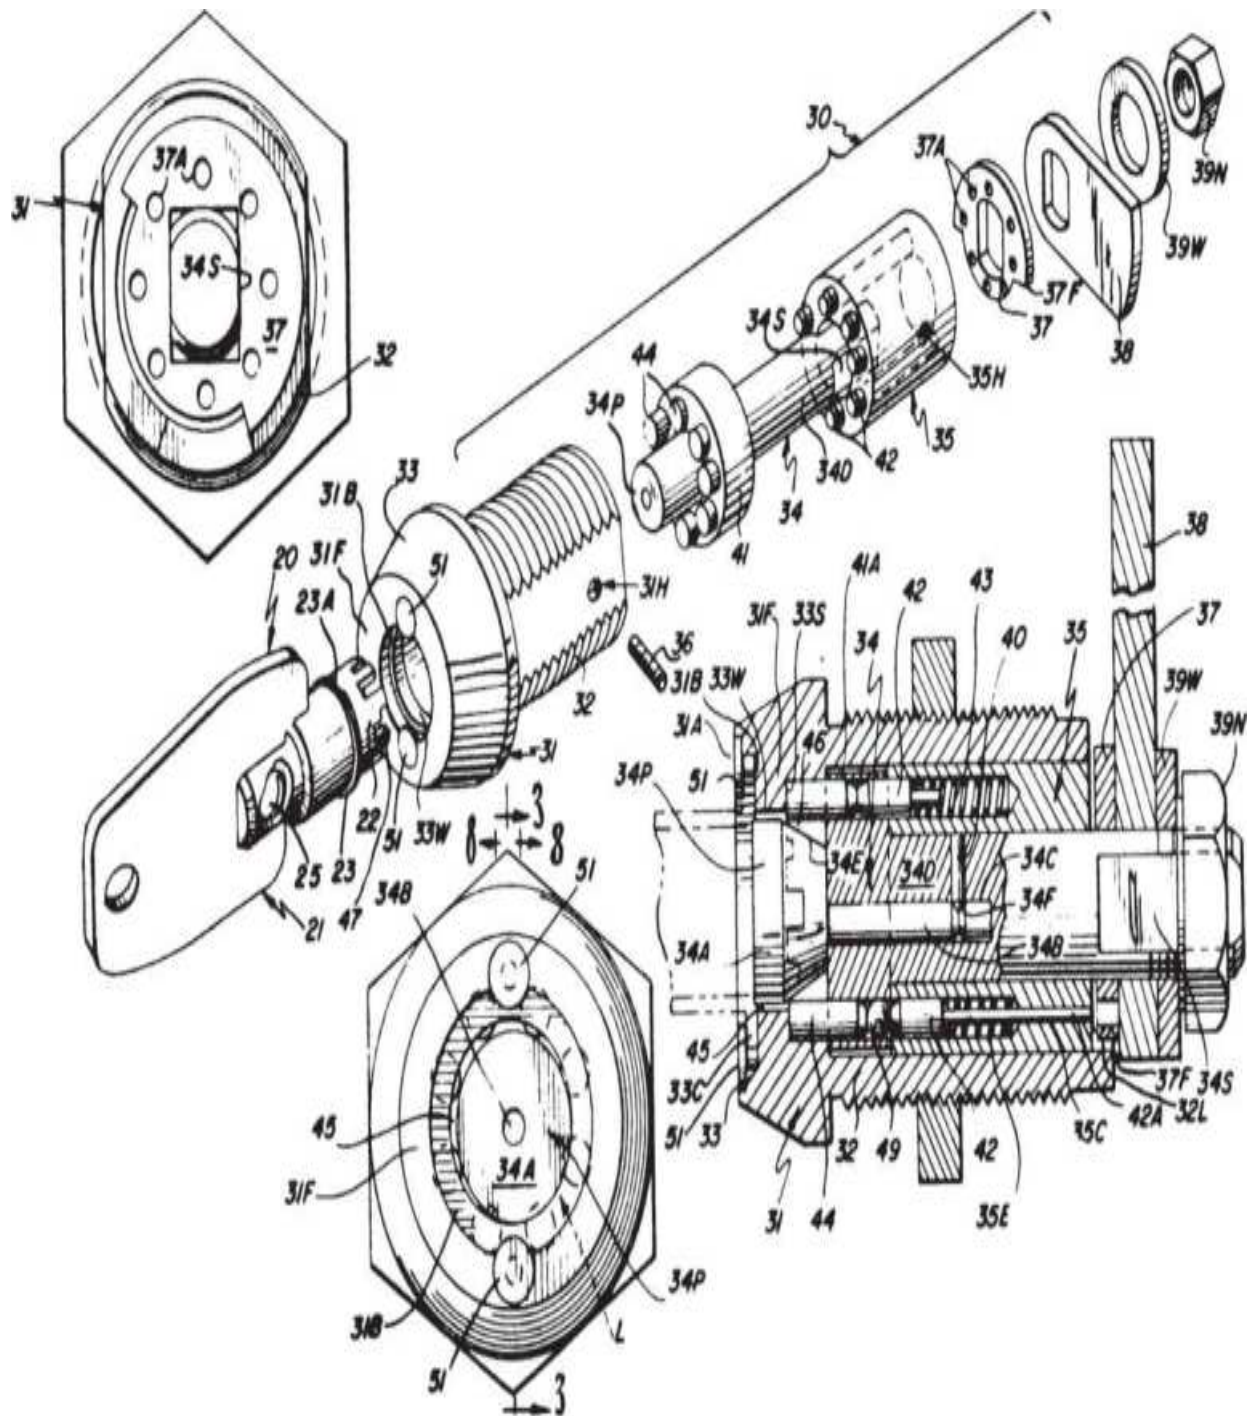

**Figure 7.26** An "Ace" tubular key lock.
The tubular key lock has become standard on vending machines. The arrangement of the pin tumblers increases security and requires a different type of key— one that is tubular. A typical tubular key lock and key is shown in Fig. 7.26 . The cam works directly off the end of the plug.
4. Install the pins. The flat ends of the core pins are toward the key (Fig. 7.26 ). This pattern must be followed: